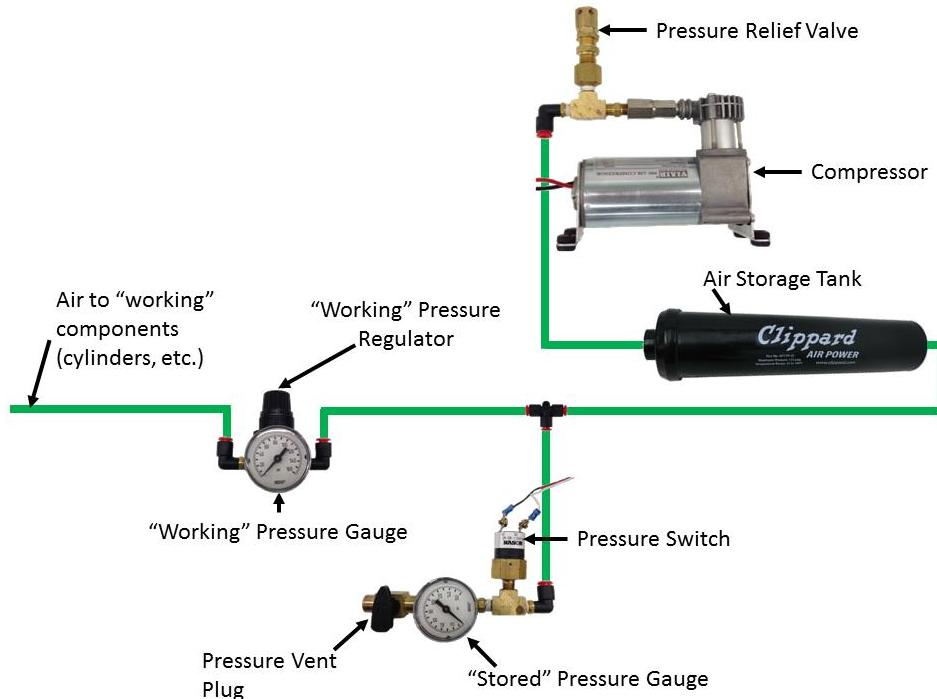

Figure 9-14 Pneumatic circuitry
**R78.** If pneumatic COMPONENTS are used, the following items are required as part of the pneumatic circuit and must be used in accordance with this section, as illustrated in Figure 9-14.
- A.** One (1) FIRST Robotics Competition legal compressor (per R79)